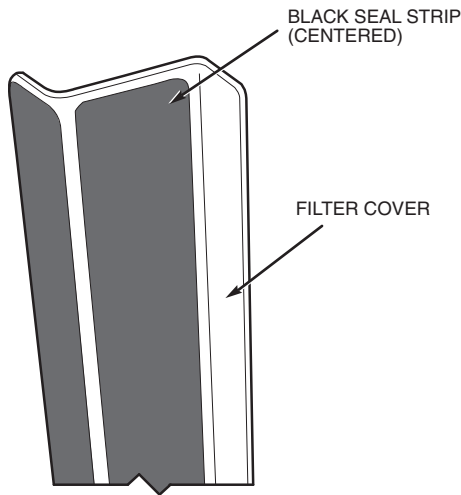

Fig. 28 — Attaching Seal Strip to Filter Cover
13. Attach black seal strip (provided) to filter cover. Seal strip should be applied centered over the holes of the one flange, making sure to fully cover holes and center over the other large flange. See Fig. 28.